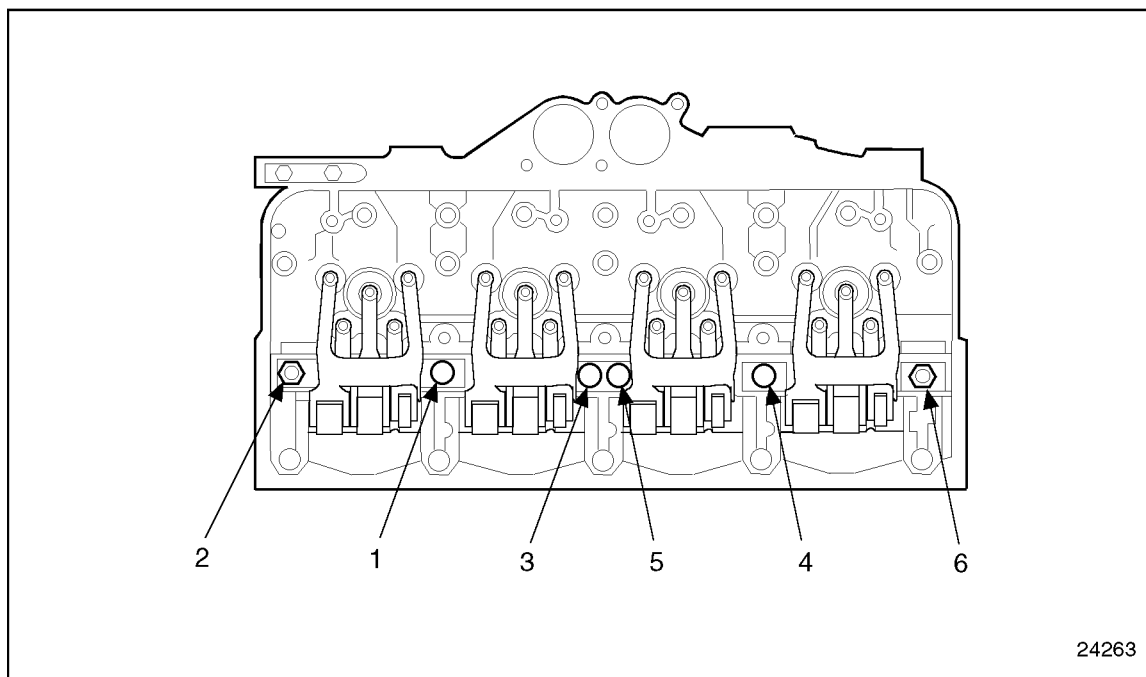

Figure 1-282 Rocker Arm Shaft Bolt and Nut Torque Sequence
- [v] Install the rocker arms and torque the rocker arm shaft's thru-bolts and nuts to 101-116 N·m (75-86 lb·ft) using the sequence. See Figure 1-282.